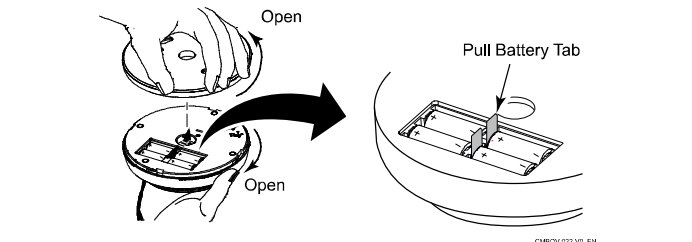

Figure 2. Powering up the 5800CMBOV
- Remove the detector from its mounting base by twisting the detector counterclockwise. (Refer to Figure 2)